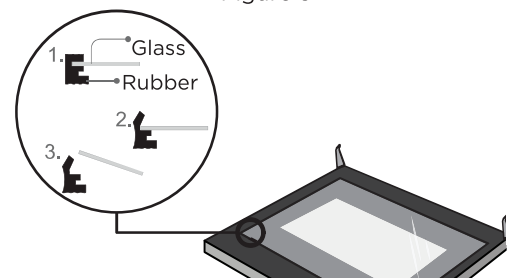

Figure 6
6. After pulling out the inner glass, please take out the middle layer glass as shown in Figure 6.